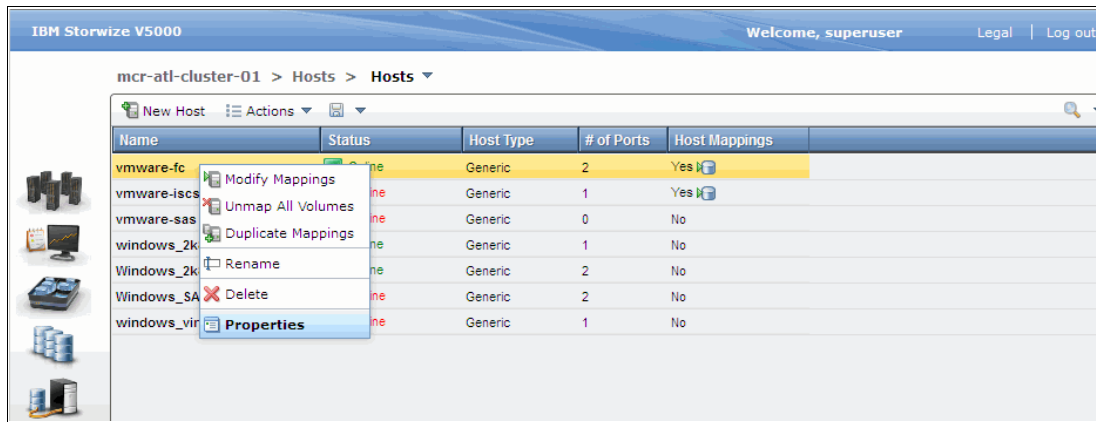

Figure 5-67 Example ESX FC host
1. Right-click your VMware ESX Fibre Channel host in the Hosts view and select **Properties**, as shown in Figure 5-67.